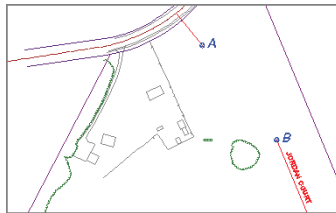

FIGURE 5.11 Alignment after removing a tangent and a curve
5. Click the tangent between A and B to remove it as well. The alignment should now look like Figure 5.11.